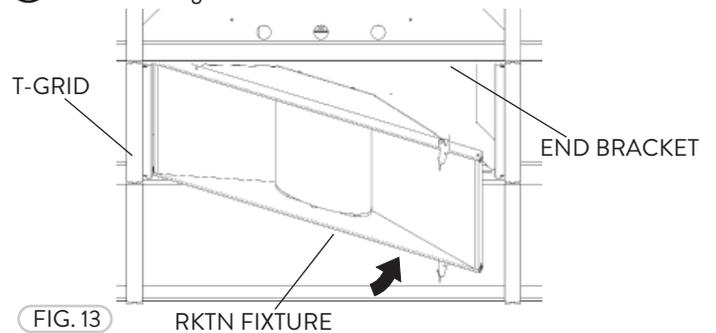

FIG. 13
- 6 Rotate the RKTN fixture on its Hinge up towards the End Brackets and T-Grid (Fig. 13).